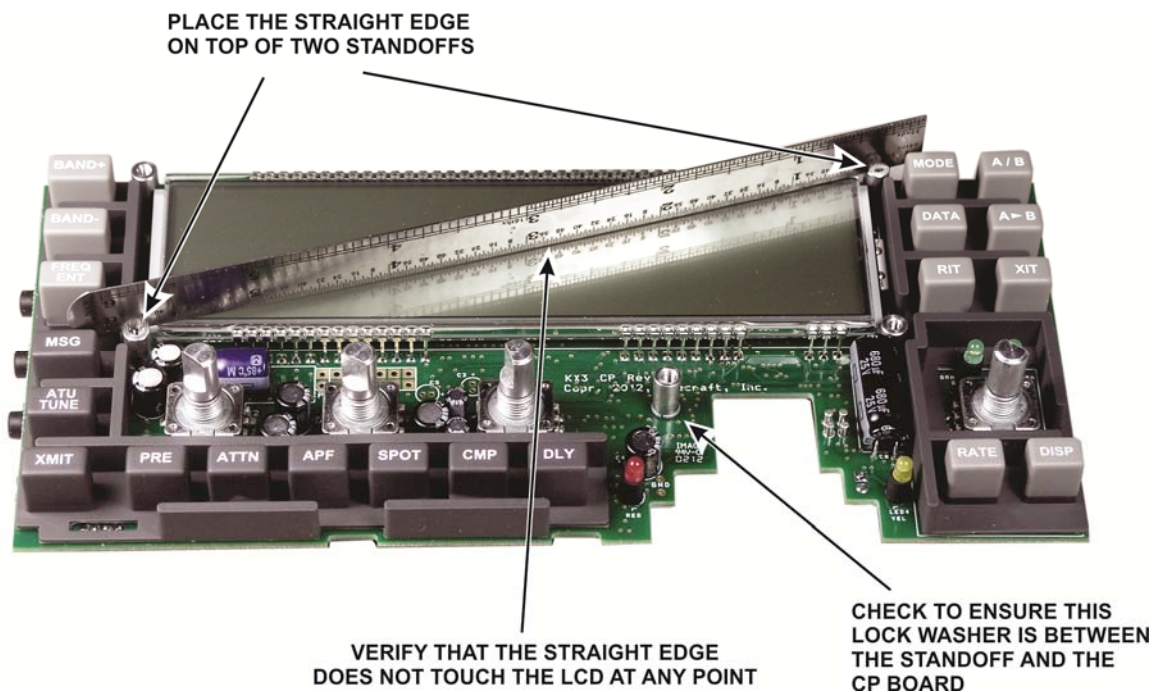
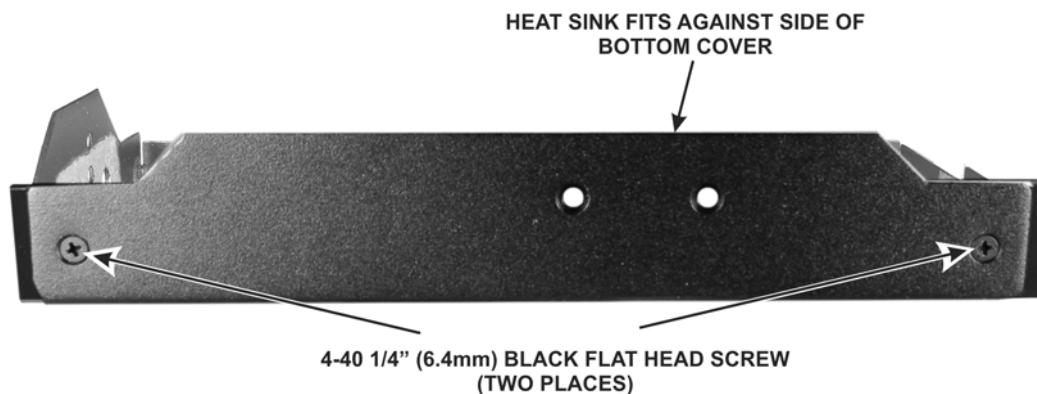

Figure 13. Checking Standoffs.
Figure 27. Mounting the Heat Sink on the Bottom Cover.
6. Straight-edge rule for checking clearances (see Figure 13, pg 15) . If a straight edge rule is not available, you may use the edge of the KX3 heat sink.
☐ On the front side of the board, place a straight edge across the top of two standoffs as shown in Figure 13 and confirm that the straight edge does not touch the LCD at any point. If it does, most likely you left out one of the lock washer spacers shown in Figure 9. Move the straight edge to the remaining two standoffs and repeat the test. If you don't have a rule such as shown, you can use the straight edge of the heat sink (Figure 27).
- ☐ Verify that you placed a lock washer between the 4-40 standoff and the pc board as shown in Figure 13.
- ☐ Mount the heat sink on the side panel of the bottom cover with two screws as shown in Figure 27. The remaining two screw holes will be filled later.